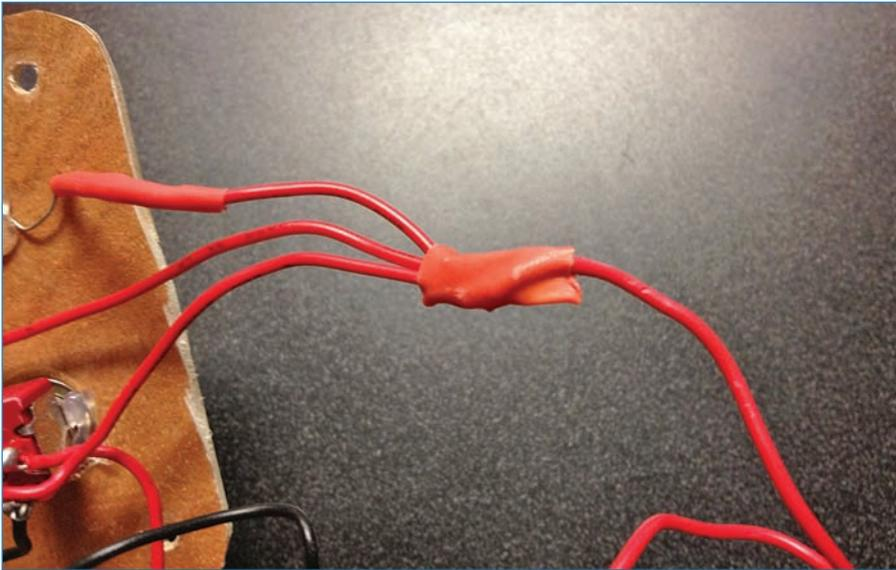

FIGURE 10.20 Now combine the positive leads.
- 11.** Solder the positive wires of the potentiometers, light sensor, and switch together, combining the four wires into one as you did in step 8. Cover the join with heat-shrink tubing. It should look like Figure 10.20! This gets plugged into the 5V pin of the Arduino.